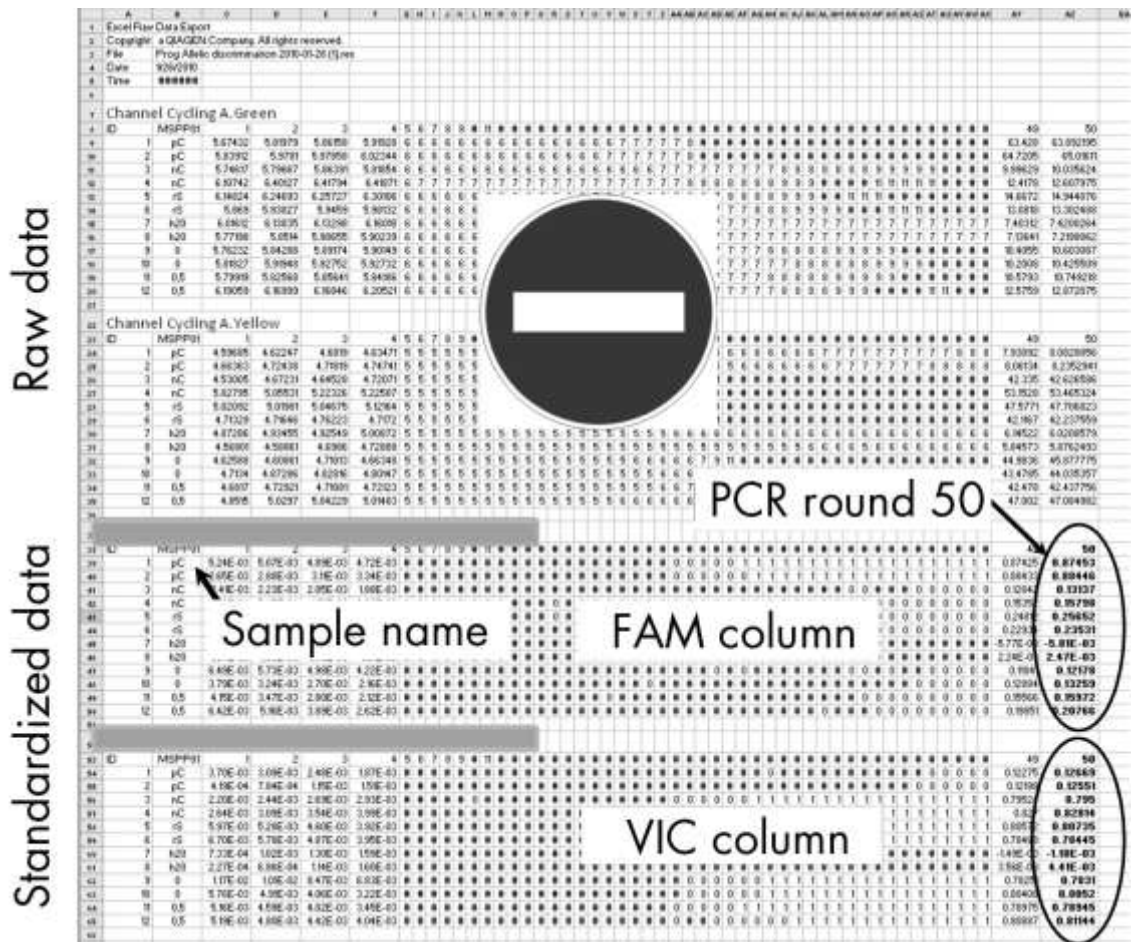

Figure 11. Example of results, shown in Excel file.
21. Open the text file in Excel and select column A. Click "Data", then "Convert", and "Next". Select "Comma" and then click "End". The results will appear as shown in Figure 11.